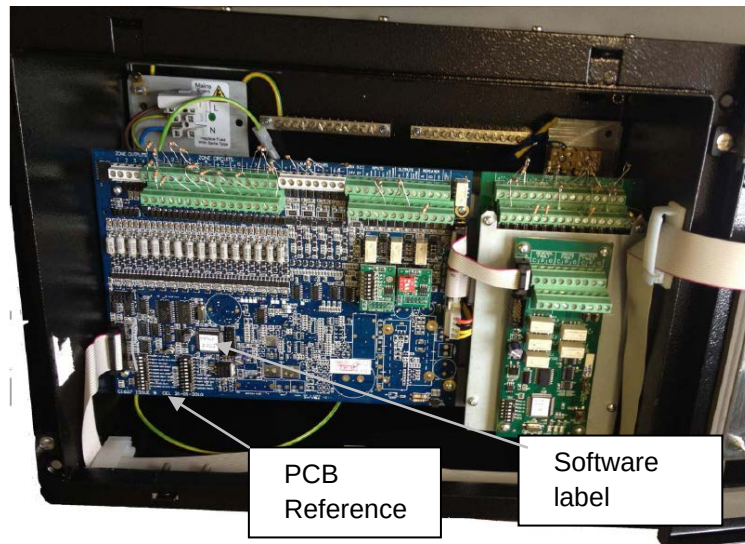

Figure 1 – Location of Software label and PCB Reference
- At ordering stage, check software version and PCB reference on existing panel motherboard. [See Fig 1 below]. The order for the spare board should specify the PCB reference and the software reference.
- At ordering stage, check software version and PCB reference on existing panel motherboard. The order should specify the software reference. [See Fig 1 below].